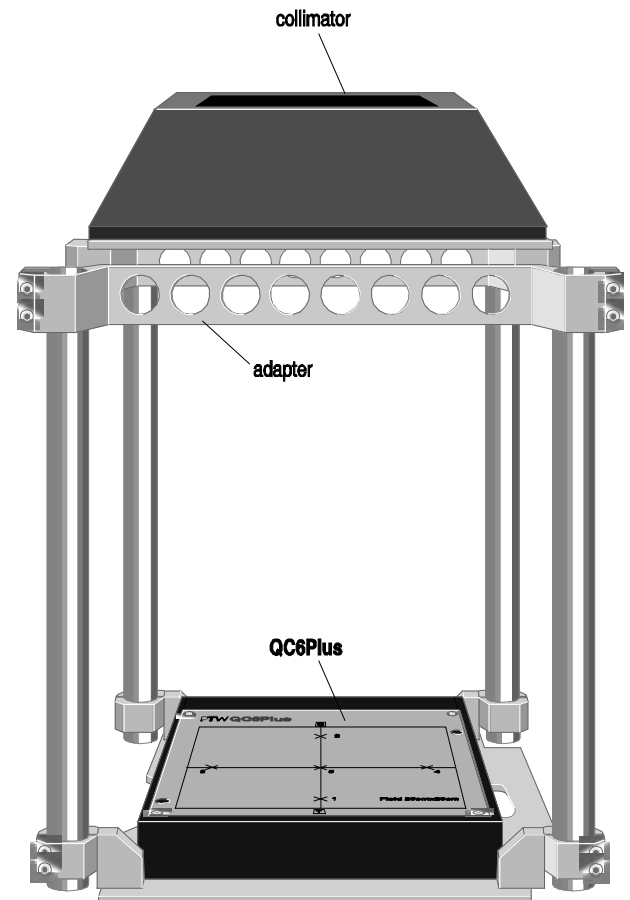

Figure 9-5: Installing the QC6Plus measuring probe in the holding device
- Place the QC6Plus measuring probe in the holding device as shown in Figure 9-5 and tighten the two screws from below.